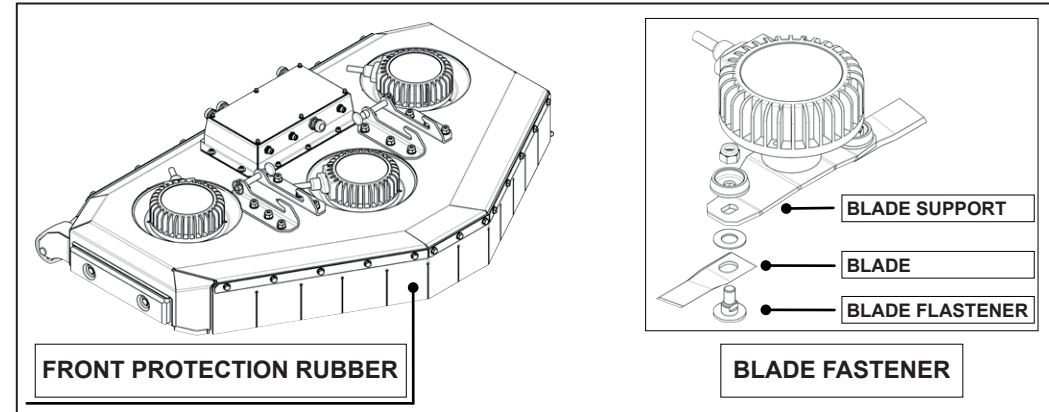

Fig. 5
- o Check the blades and fasteners (fig. 5) before resuming work.